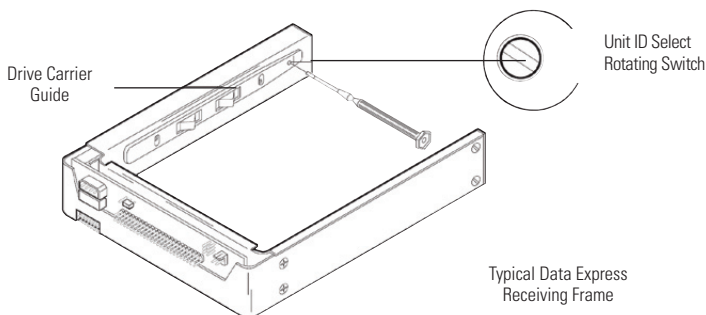

Figure 4: Unit ID Select Switch Location
**Remote Unit ID Selection:** Pins 1-8 of this connector are provided for SCSI ID selection through a remote ID selector switch. Remote ID selection requires that the unit ID switch located on the inside of the receiving frame be set to "0" (onboard ID selection is set with a switch located on the inside of the receiving frame as shown in Figure 4).
**Factory-Installed Jumpers:** There are two (2) jumpers factory-installed on W1 (Pins 9 & 10 and 21 & 22). DO NOT remove these jumpers!